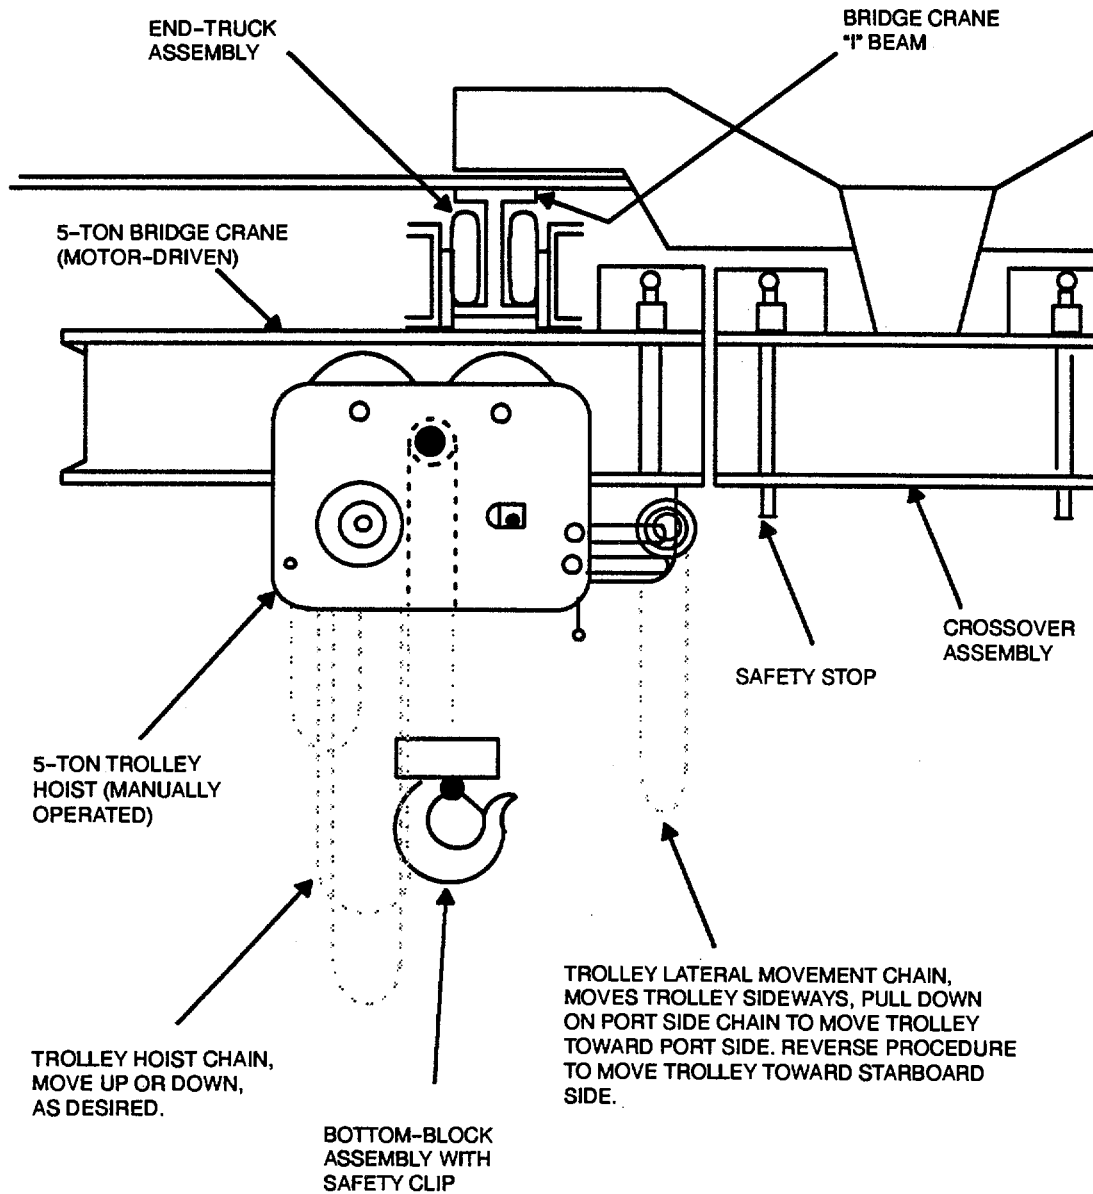
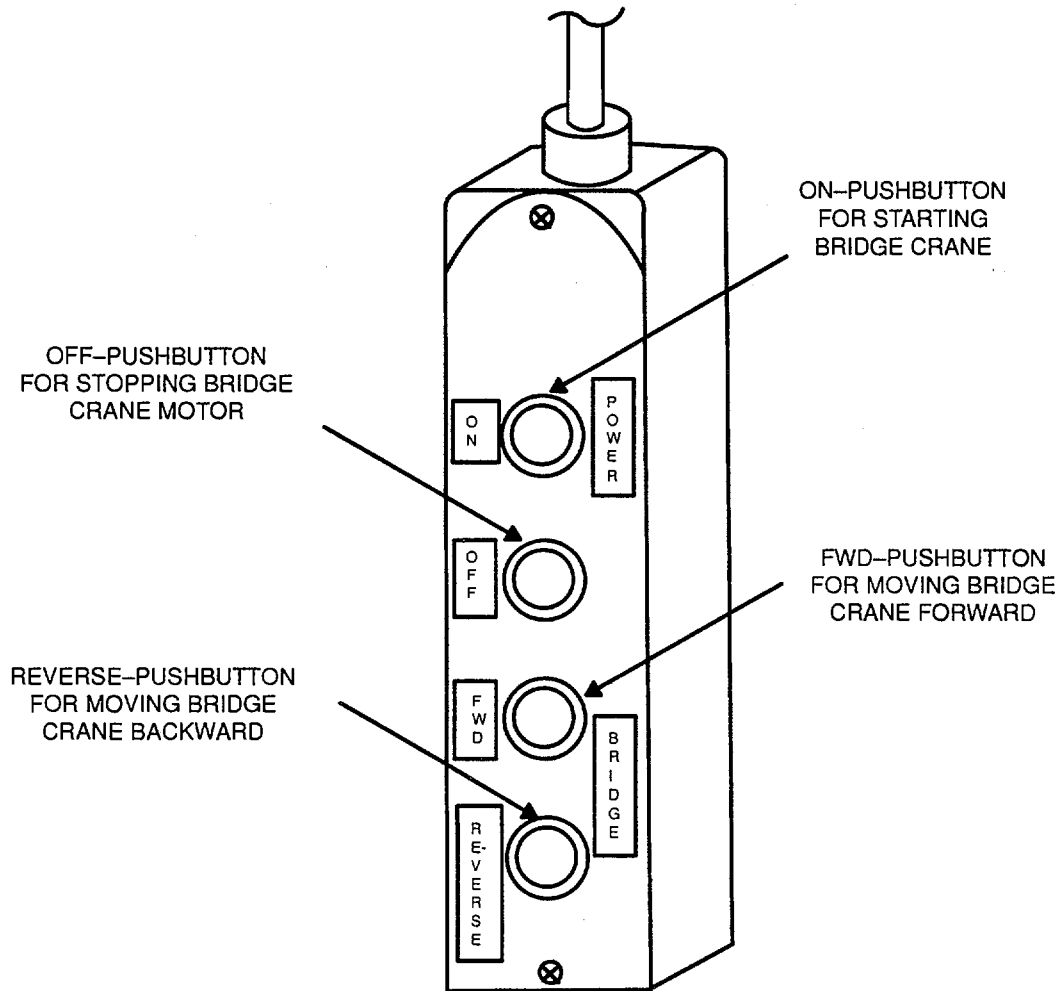
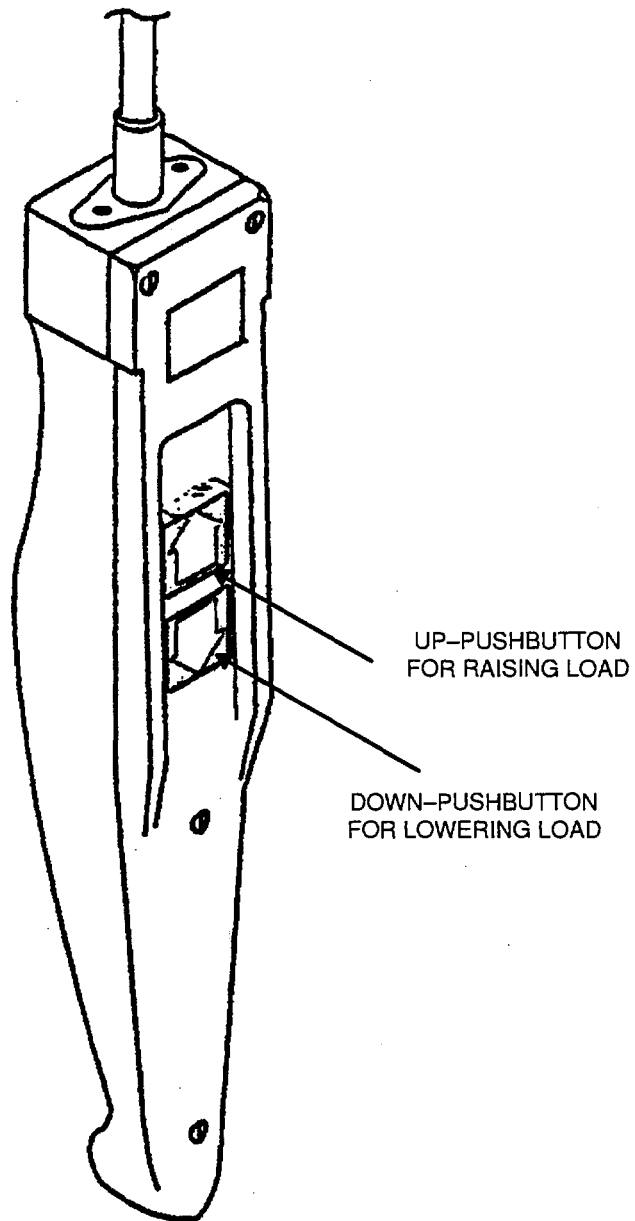

Figure 2-1 . Bridge Crane
Figure 2-5 . Bridge Crane Hand-Held Control
Figure 2-6 . Two-Ton Hoist Hand-Held Control
2-10 Operating controls. Controls for maneuvering loads include the bridge crane hand-held control shown in Figure 2-5 and 2-ton hoist hand-held control shown in Figure 2-6.
- a. Close (ON) power panel 1 circuit breaker 6P5 on ROWPU space portside.
- b. Start crane motor by pressing ON button on hand control (Figure 2-5). Press FORWARD or REVERSE button as necessary to move crane to load location.
- c. Move trolley sideways by using trolley lateral movement chain (Figure 2-1).
- f. Use trolley hoisting chain (Figure 2-1) to raise load when 2-ton electric hoist is not installed. If load is within capacity of 2-ton electric hoist and it is installed, press UP button on hand control (Figure 2-6) to raise load. Make sure load is high enough to clear any equipment in the path of the load.
- g. Press crane hand control FORWARD or REVERSE button (Figure 2-5) as necessary to transport load to new location.
- i. Use trolley lateral movement chain (Figure 2-1) to move trolley so load is at exact position for unloading.
- j. Use trolley hoisting chain to lower load when 2-ton electric hoist is not installed. If 2-ton electric hoist is used, press DOWN button on hand control (Figure 2-6) to lower load.